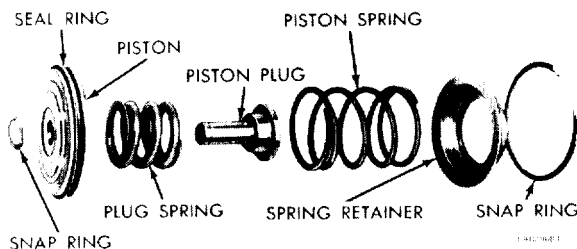
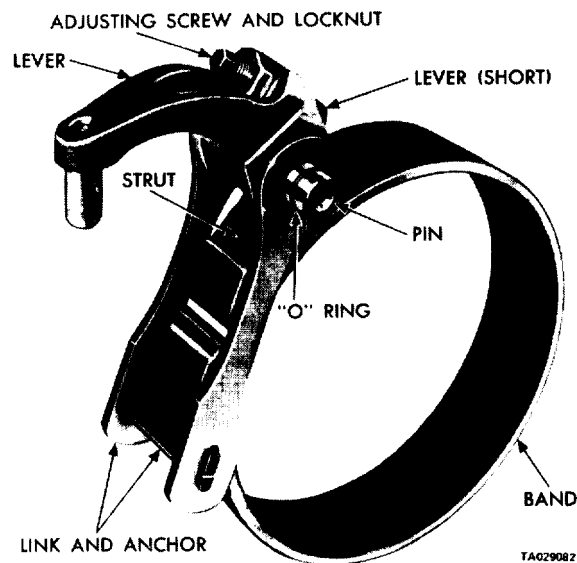

Figure 18-30. Low and Reverse Servo.
Figure 18-31. Low-Reverse Band and Linkage.
a. Disassembly. Remove the snap ring from the piston and remove the piston plug and spring (figure 18-30).
(1) Carefully work the servo piston assembly into the case with a twisting motion. Place the spring, retainer, and snap ring over the piston (figure 18-30).
(2) Compress the low and reverse servo piston spring by using an engine valve spring compressor tool. Install the snap ring.
(3) Position the rear band in the case. Install the short strut, then connect the long link and anchor to the band (figure 18-31). Screw in the band adjuster just enough to hold the strut in place. Install the low-reverse drum. Be sure the long link and anchor assembly is installed as shown in the figure to provide running clearance for the low and reverse drum.